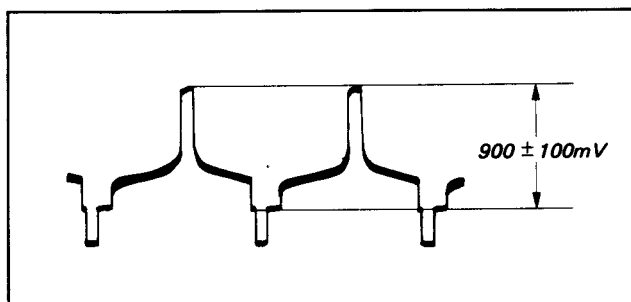

Fig. 2-26
- 2) Turn RV502 so as to make the value of waveform of Fig. 2-26 equal to $900 \pm 100\text{mV}$.